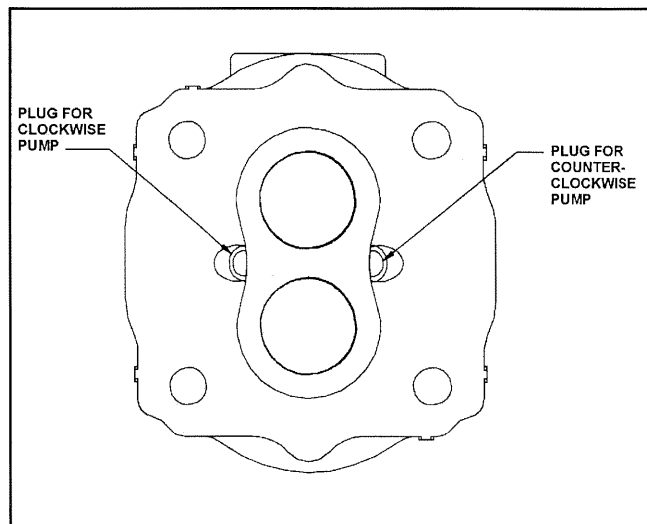

Figure 5: Helical Gear Only Front Cover With Dryseal Plugs. NOTE: Do Not Fit Plugs on Both Sides. No Plug Drillings on Spur Pumps.
2. Fit dryseal plug to high pressure side of pump as shown in Figure 5.